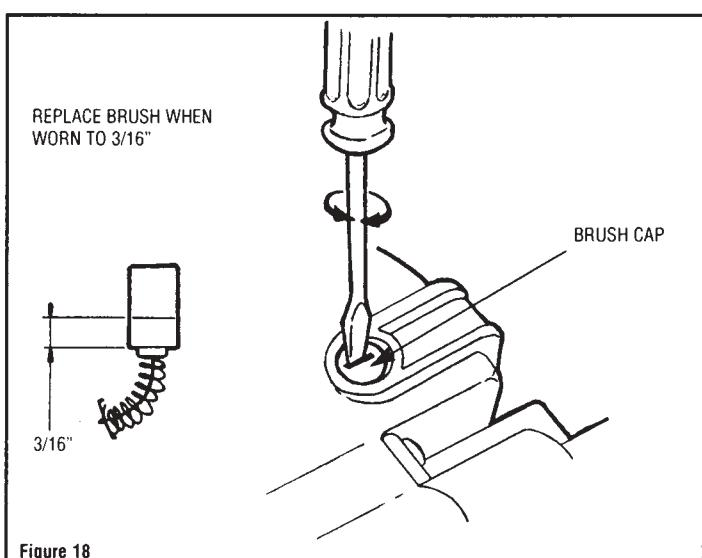

Figure 18
- (4) As vibration through use can cause screws to loosen, periodically tighten screws on the feeder block.
- (5) The motor uses carbon brushes. These should be inspected regularly and replaced as necessary. See figure 18. To replace carbon brushes, remove brush cap, then remove spring and brush assembly. Carbon brushes should always be replaced in pairs. Install new brushes and replace brush cap.
- (6) The tool should be maintained in good condition. For optimum performance, clean and adjust the unit regularly. Wood chips or other materials will affect the tool's performance and consequently its efficiency. Remove such materials from the feeder block before and after use.
- (7) Dust in the motor should be discharged every 50 hours of operation. A method of discharging the dust is to run the motor in a no-load situation and blow compressed air into the housing through the front air vents causing the dust and air to exhaust together through the rear air vents.
- (8) When tool service is required be sure to use only genuine replacement parts.